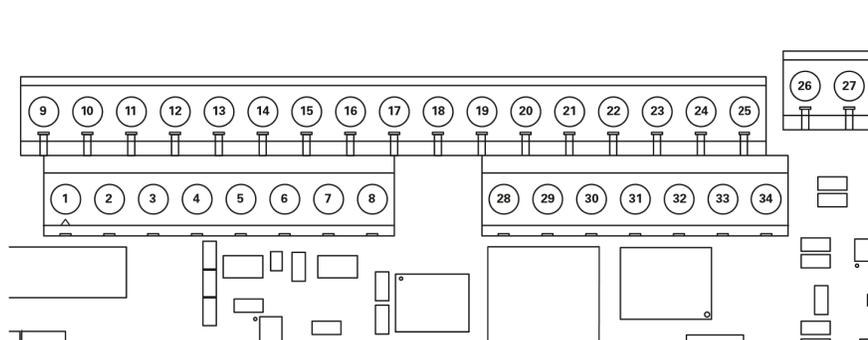

Figure 9: Terminal Assignments
3. Follow the terminal assignments shown in Figure 9 for the proper electrode cable wiring location.